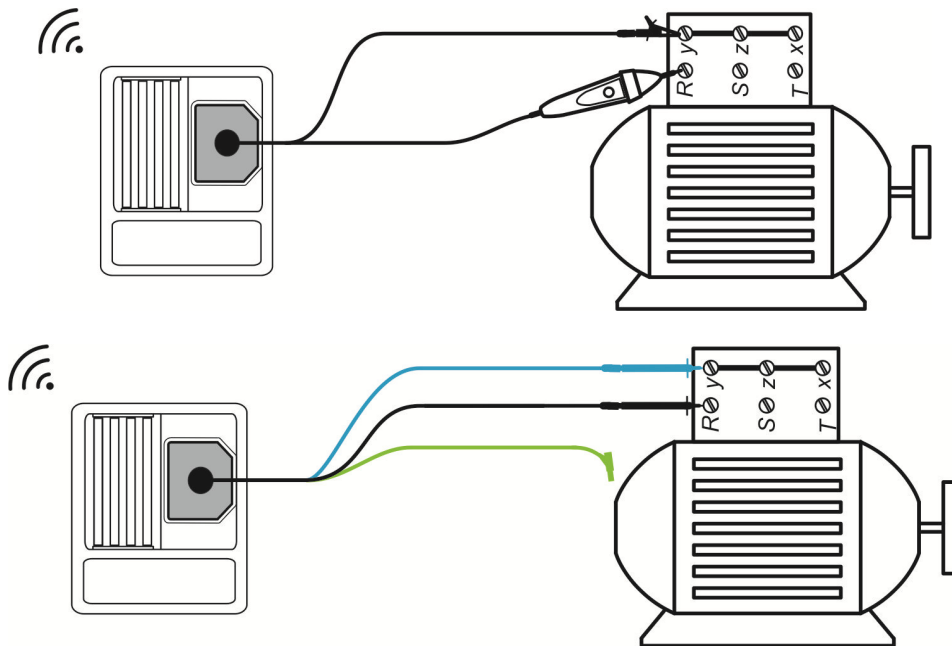

Figure 5.11: Using the optional "Commander" test probe (044155) and the three-wire test cable
- ❑ Connect the test cables to the test object (see figure 5.11).